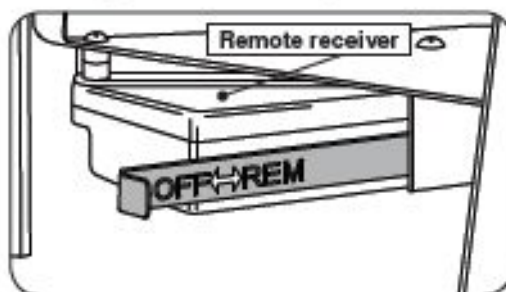

Fig. 17-2
2. Locate the OFF/REMOTE slide actuator on the left rear of the burner. Slide the actuator to the right / REMOTE position. See Fig. 17-2.